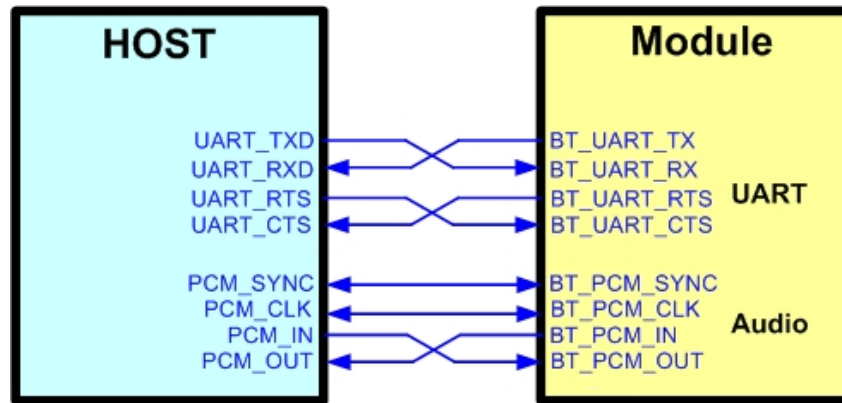

Figure5. Bluetooth verification connection interface to Host UART
- ❖ Refer to Figure5 UART pin definition connects the J16 interface of AP6275S evaluation board to Host UART control interface.